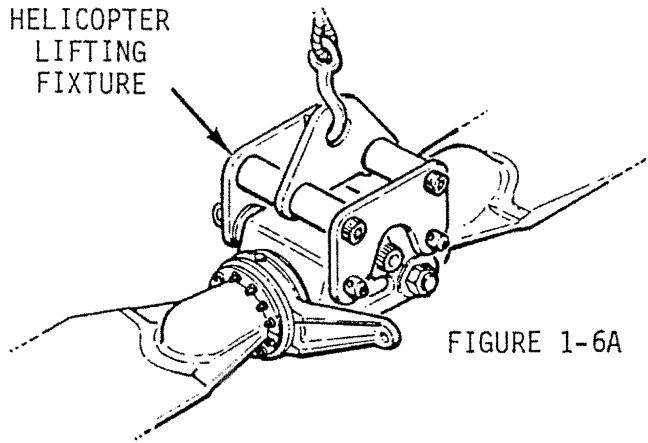
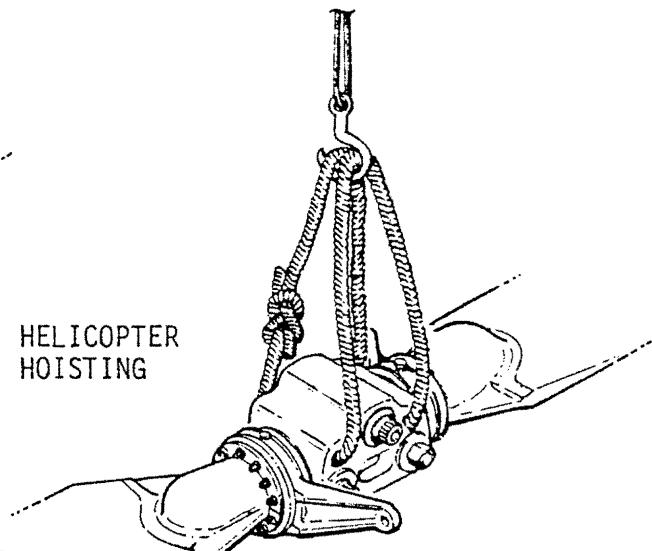

FIGURE 1-6A HELICOPTER HOISTING
FIGURE 1-6B HELICOPTER HOISTING
2. Hoist helicopter using MT527-1 helicopter lifting fixture as shown in Figure 1-6A, or by passing one-inch diameter soft nylon rope through the lightening holes in main rotor hub and forming a double loop per Figure 1-6B. Rope must have a minimum tensile strength of 2,500 lb.